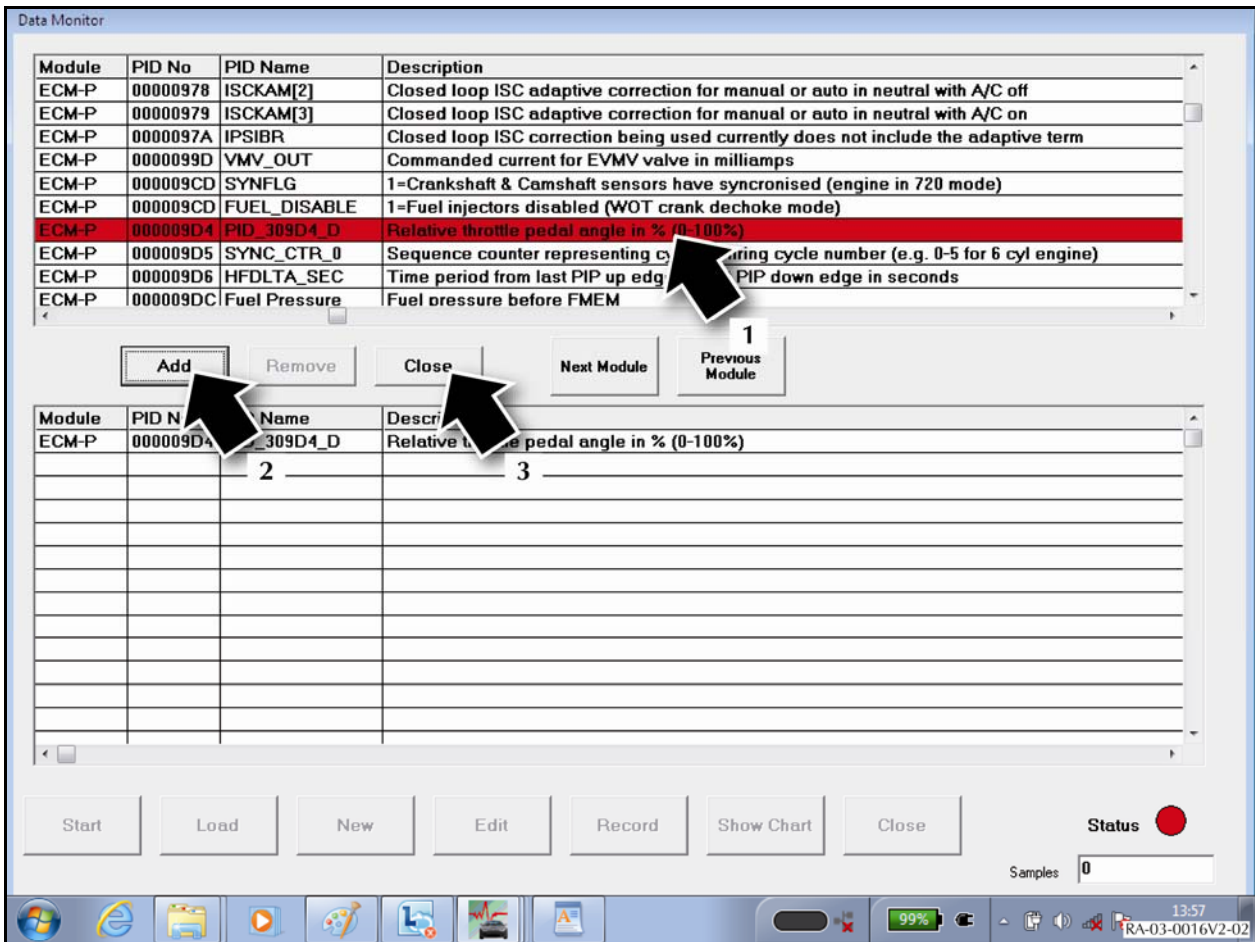

Figure 1
8. Go to data monitor on AMDS and select PID\_309D4: "Relative throttle pedal angle in % (0-100%)" (1) (refer to Figure 1). The PID will be added to the bottom table.
9. Click on "Add" (2).
10. Click on "Close" (3).